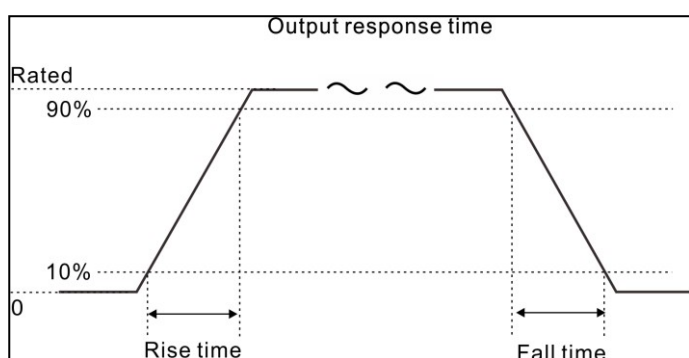

Fig9-1
*5.	Time for output voltage recover within +/-1% of rated value when load changes from 10% to 90% (Fig9-1)